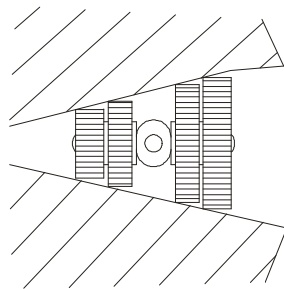

fig 4
3. Never place a unit where any single cam is near its maximum extension. ( fig 4)